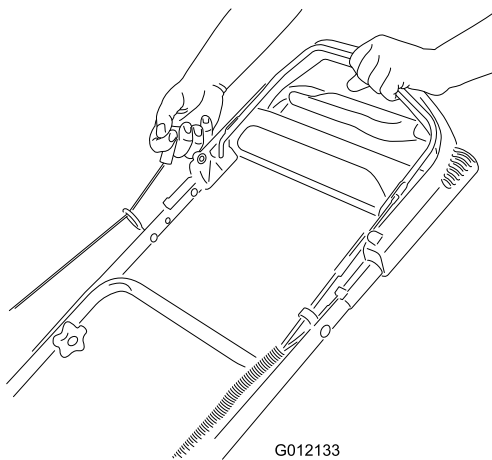

Figure 13
3. Pull recoil start handle (Figure 13).